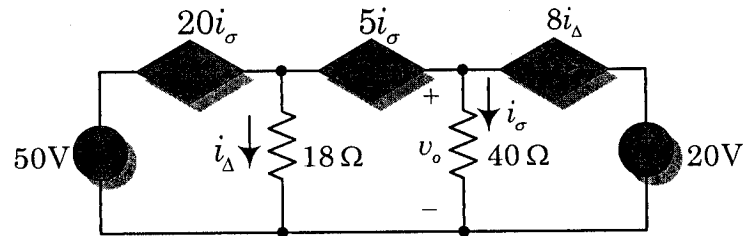

Figure Q1(a)
a) For the circuit shown in Figure Q1(a), use KVL and KCL to find the following:
b) In the circuits shown in Figure Q1(b) starting with (I) and ending with (III),